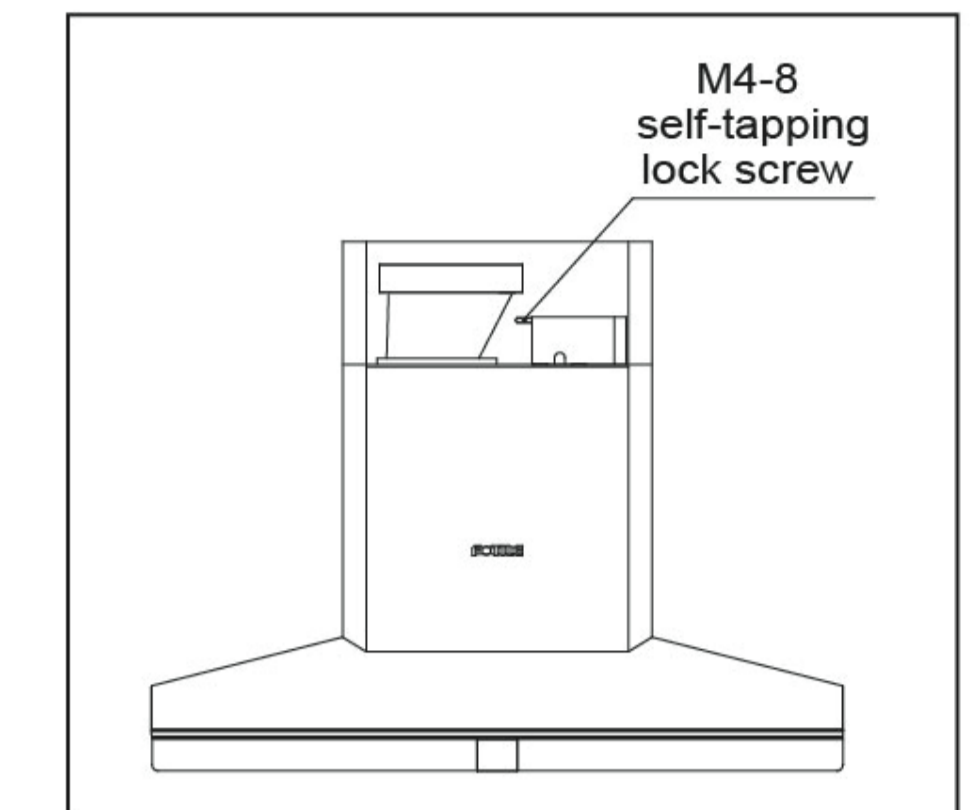

Figure 3
8. The fan frame shall be connected and fixed with the hook with M4x8 self-tapping lock screw, as shown in Figure 3.